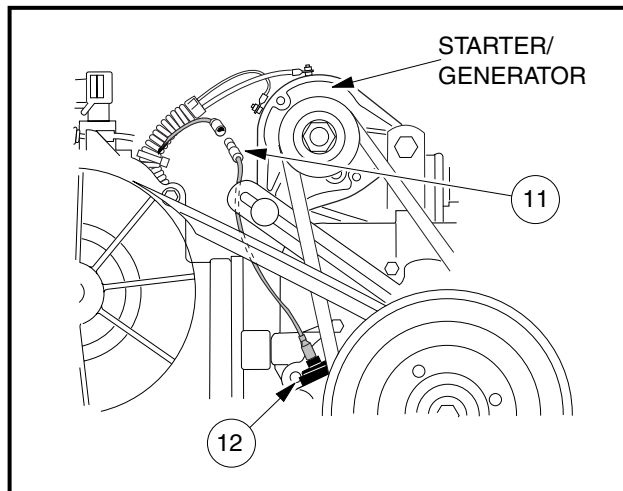

Figure 2-39 Oil Level Sensor Wire
1. Remove yellow jumper wire (11) from cord connector (12) (Figure 2-39, Page 2-21).